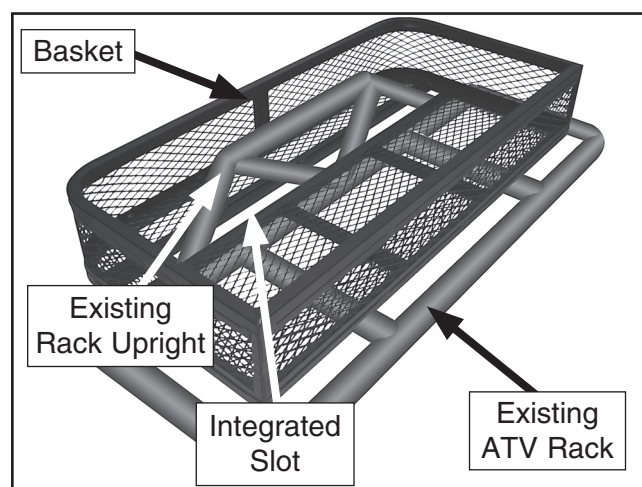

Figure 5. Basket placement.
- If your existing rack has upright portions, then use the integrated slot in the basket to position the model T10040 over the existing upright on the ATV rack, as shown in **Figure 5**.